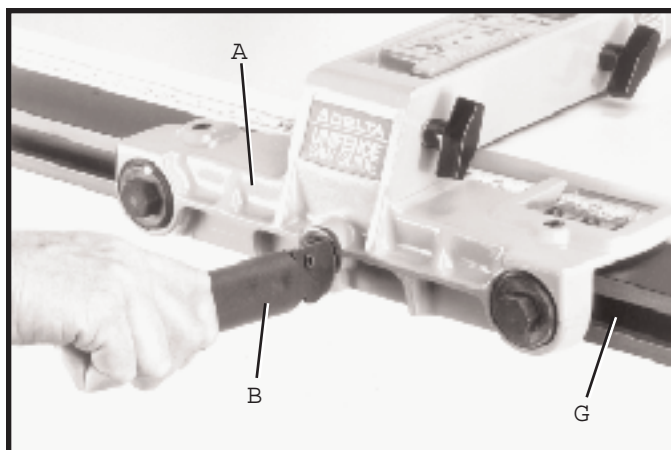

Fig. 44
2. Place fence body (A) Fig. 44, onto the guide rail as shown, making sure clamp bracket is inserted into channel (G) on rail. Notice that the clamp handle (B) is turned to the left indent position.